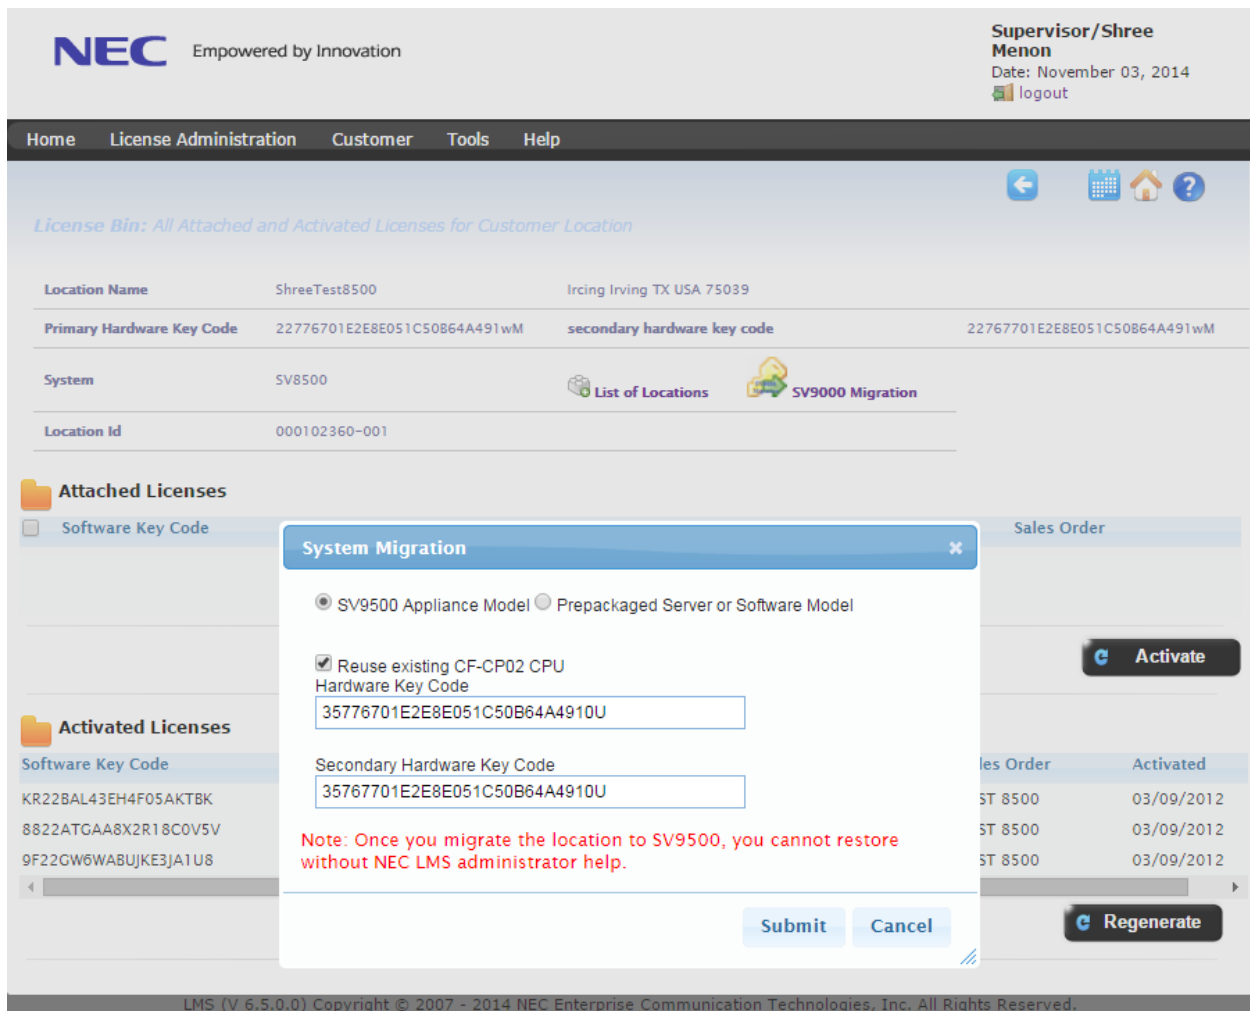

Figure 8
- i. By selecting the SV9500 Appliance Model option, the user will need to enter information regarding how the hardware is to be migrated. There is an option to reuse the existing CP02 CPU. Hardware Key code information needs to be entered, if the existing CPU is being replaced (Figure 8).
- a) If the checkbox for "Reuse existing CF-CP02 CPU" is checked, the LMS will automatically populate the hardware key code based on SV9500 Hardware. The user will not be able to edit the fields (Figure 8).